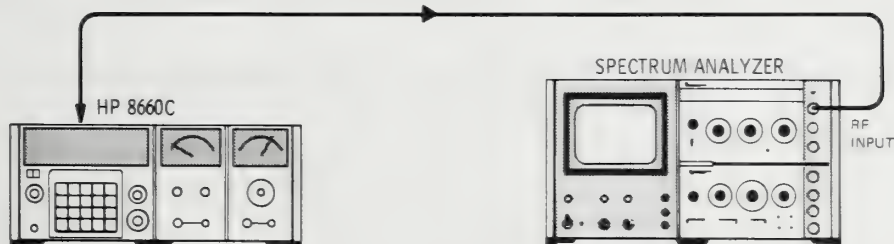

Figure 5-4. RF Level Checks Test Setup
- d. Connect the Spectrum Analyzer RF INPUT to the 100 MHz output of the A4A4 assembly and tune the Spectrum Analyzer CENTER FREQUENCY to 100 MHz. The 100 MHz signal should be  $>+10$  dBm (see Figures 5-4 and 5-5).